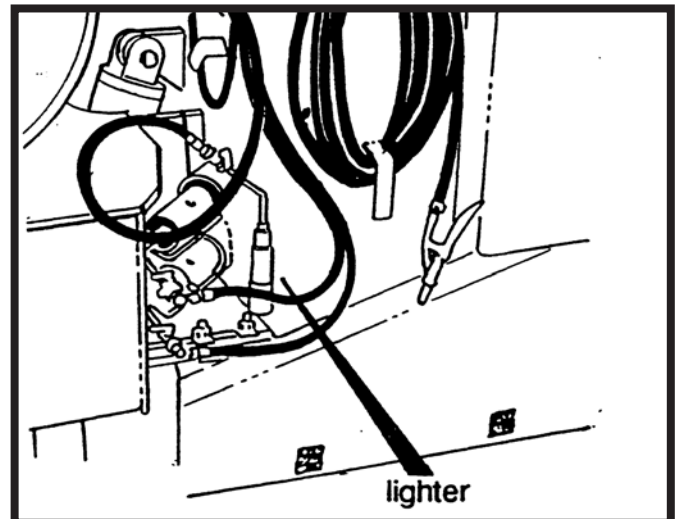

Figure 10
2. Remove the lighter from its holder. See figure 10.